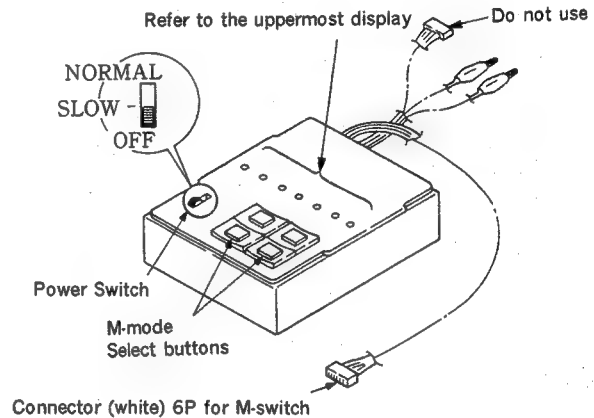

Fig. 1
1. Location of part and control (Fig. 1)